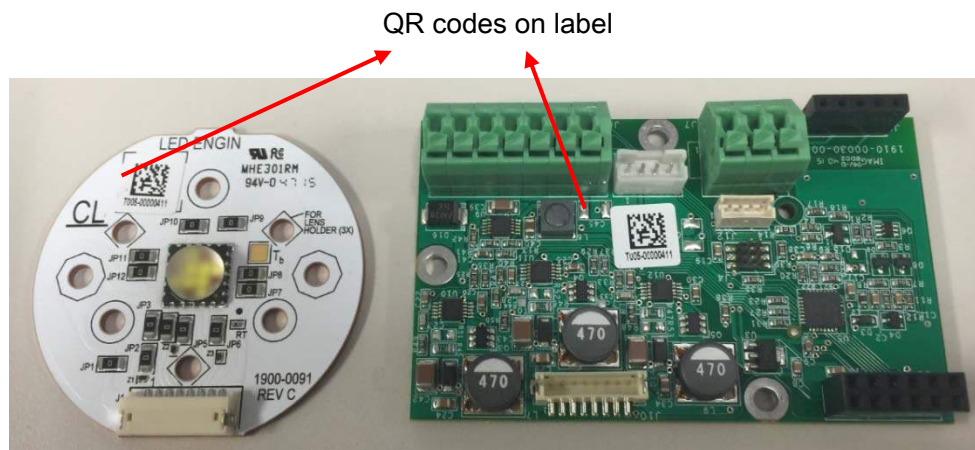

Figure 32: LuxiTune QR codes on matched pair
- Traceability is enabled by a QR code for tracking matching parts. The unique code consists of the following characters, which can be either letters or numbers. See example below in Figure 32.